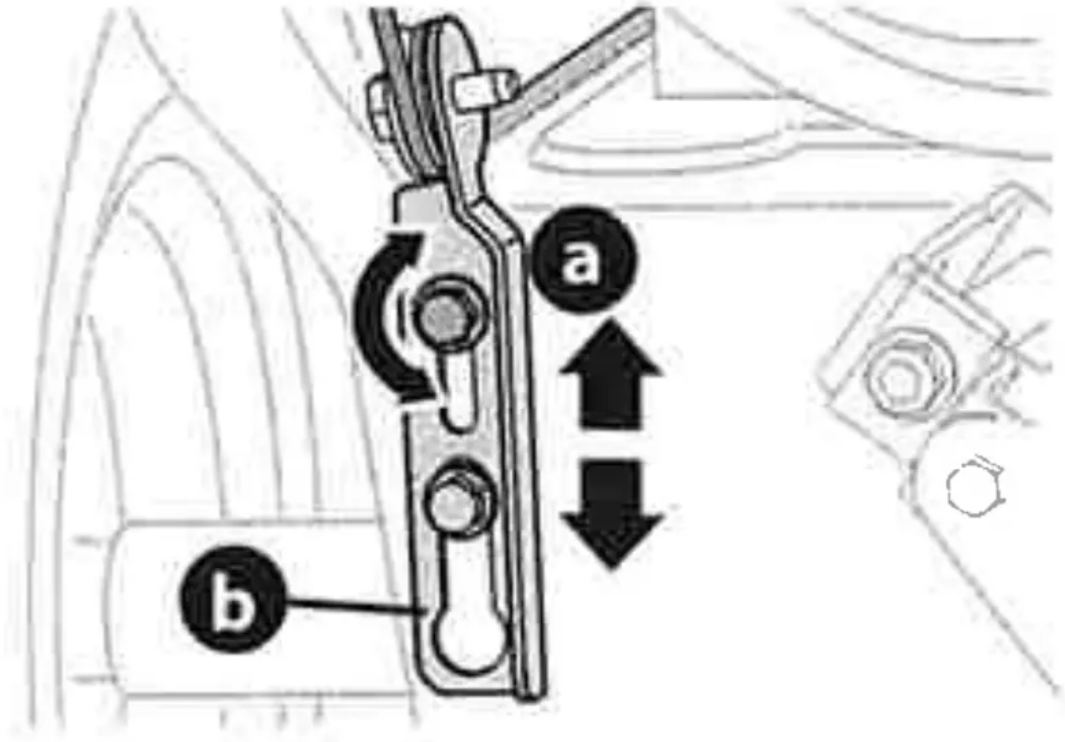

Figure 54
7. To readjust the auger control cable, loosen upper hex screw (a) (Figure 54).
8. Position auger control bracket (b) upward to provide more slack in cable or downward to increase tension (Figure 54).